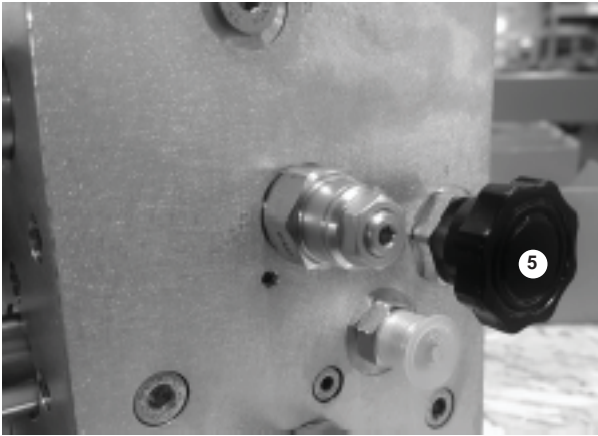

Figure 9.9
- Inside the hydraulic compartment, open the free-wheeling valve (5) by turning it counterclockwise until the knob stops (see figure 9.9).